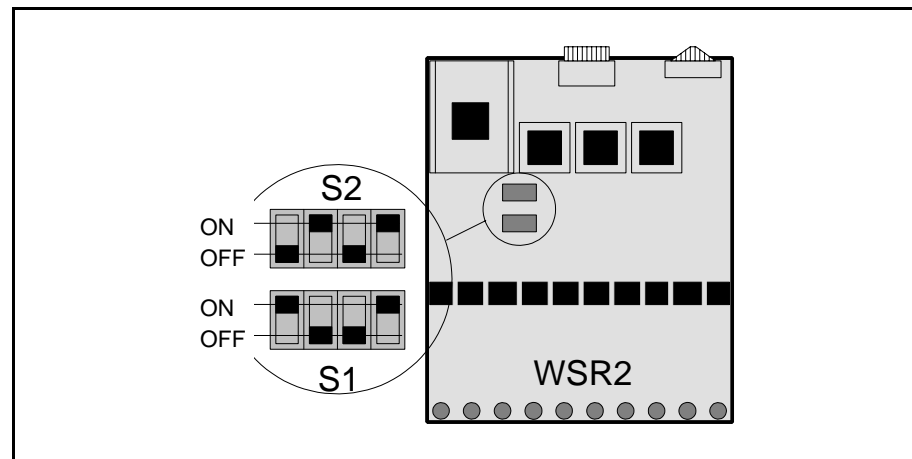
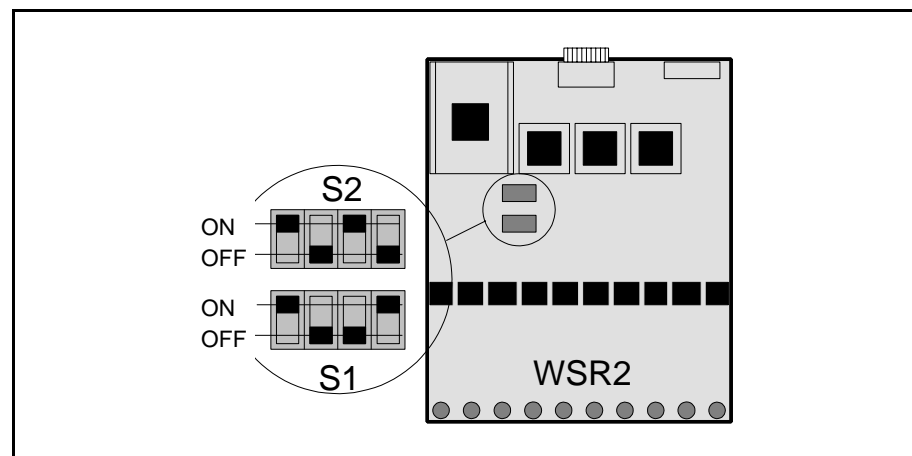

Figure 14-1. Left WSR2 board
Figure 14-2. Right WSR2 board
The WSR2 boards have two switches each, S1 and S2. The boards are located left most and right most on the lower part of the X wagon. The boards are shown in Figure 14-1 and Figure 14-2. (In some cases WSR2 switches may be found in a different location as to the ones shown in the figures below. The markings though are always the same).
- The switch setting for the WSR2 board on the left-hand side of the X wagon is shown in Figure 14-1. S1 should be set to ON-OFF-OFF-ON and S2 to OFF-ON-OFF-ON.
- The switch setting for the WSR2 board on the right-hand side of the X wagon is shown in Figure 14-2. S1 should be set to ON-OFF-OFF-ON and S2 to ON-OFF-ON-OFF.